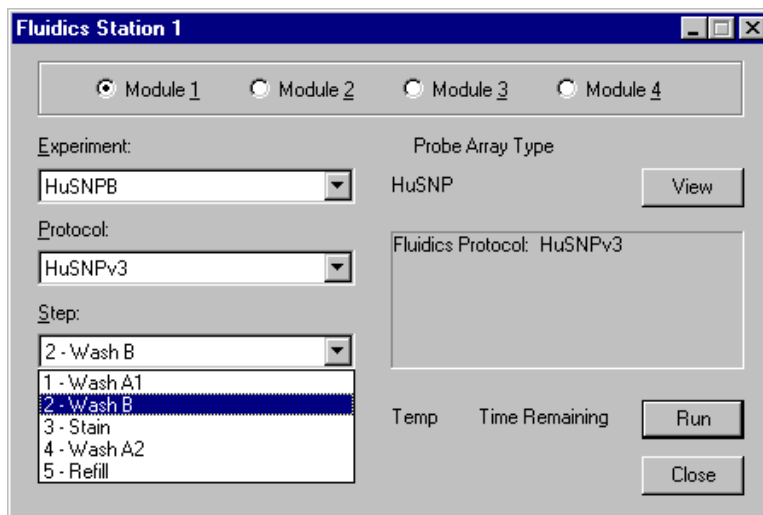

Figure 4.9 Fluidics Station dialog box, bypassing protocol step 1. Disk files mode.
⇒ The Fluidics Station dialog box opens (Figure 4.9).
2. Select the desired **Module**, **Experiment**, and **Protocol** from the drop-down lists (Figure 4.9).